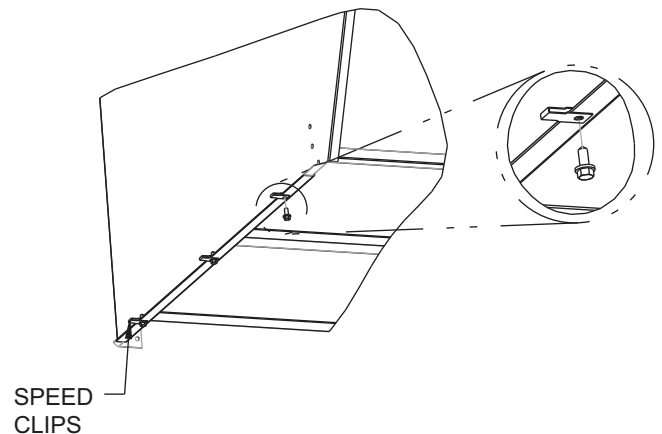

Fig. 39 — Bottom Filters Installed with Flange Pointing Down
11. Attach speed clips (provided) to hood side panels. Engagement section of clip faces up and towards the outside of the hood side panels. Attach mounting angles to hood with gasketed screws provided. See Fig. 39.